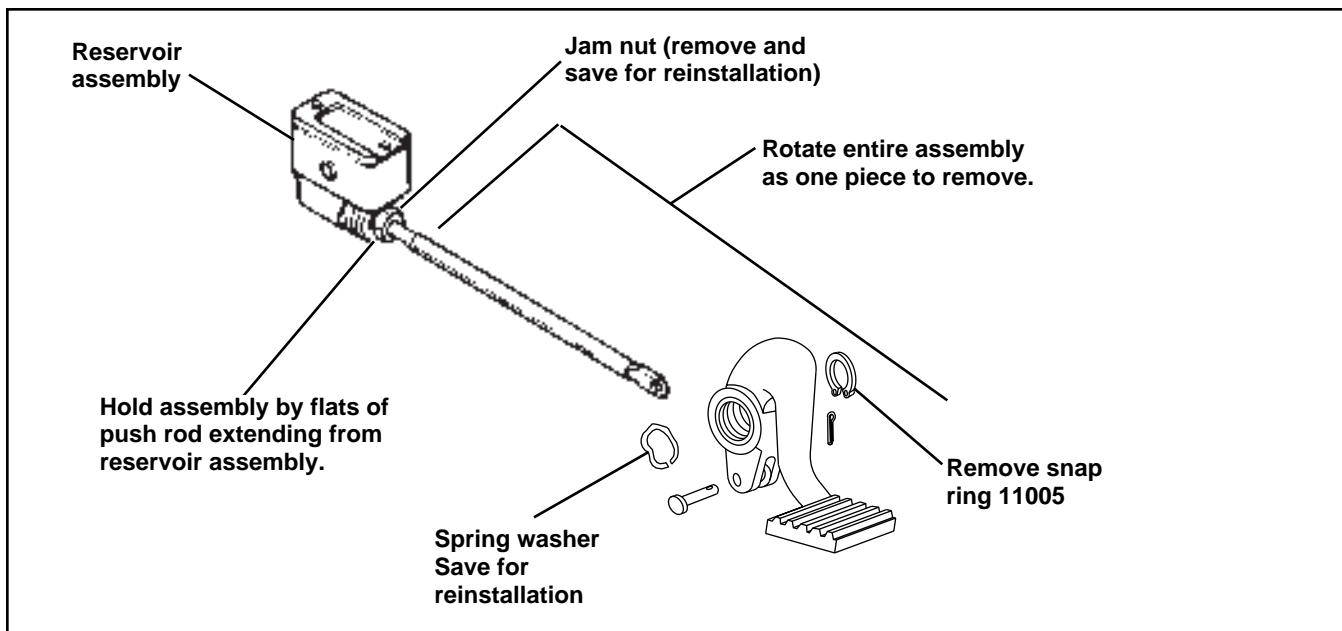

Figure 3. Existing brake assembly removal
- d. See Figure 3. Loosen the entire brake pedal assembly. Back off the jam nut and hold on the flats of the pushrod at the reservoir assembly. Rotate the entire assembly until it is removable. Remove the jam nut from the assembly and save for reinstallation.